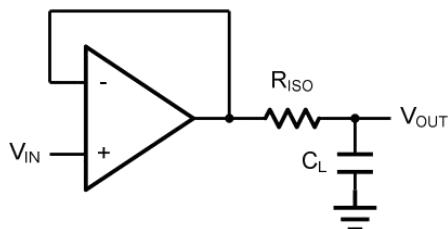
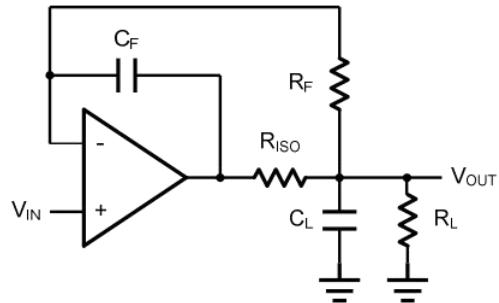

Figure 2. Indirectly Driving a Capacitive Load Using Isolation Resistor
Figure 3. Indirectly Driving a Capacitive Load with DC Accuracy
The HG855x family is optimized for bandwidth and speed, not for driving capacitive loads. Output capacitance will create a pole in the amplifier's feedback path, leading to excessive peaking and potential oscillation. If dealing with load capacitance is a requirement of the application, the two strategies to consider are (1) using a small resistor in series with the amplifier's output and the load capacitance and (2) reducing the bandwidth of the amplifier's feedback loop by increasing the overall noise gain. Figure 2. shows a unity gain follower using the series resistor strategy. The resistor isolates the output from the capacitance and, more importantly, creates a zero in the feedback path that compensates for the pole created by the output capacitance.
The circuit in Figure 3 is an improvement to the one in Figure 2. R_F provides the DC accuracy by feed-forward the V_{IN} to R_L . C_F and R_{ISO} serve to counteract the loss of phase margin by feeding the high frequency component of the output signal back to the amplifier's inverting input, thereby preserving the phase margin in the overall feedback loop. Capacitive drive can be increased by increasing the value of C_F . This in turn will slow down the pulse response.